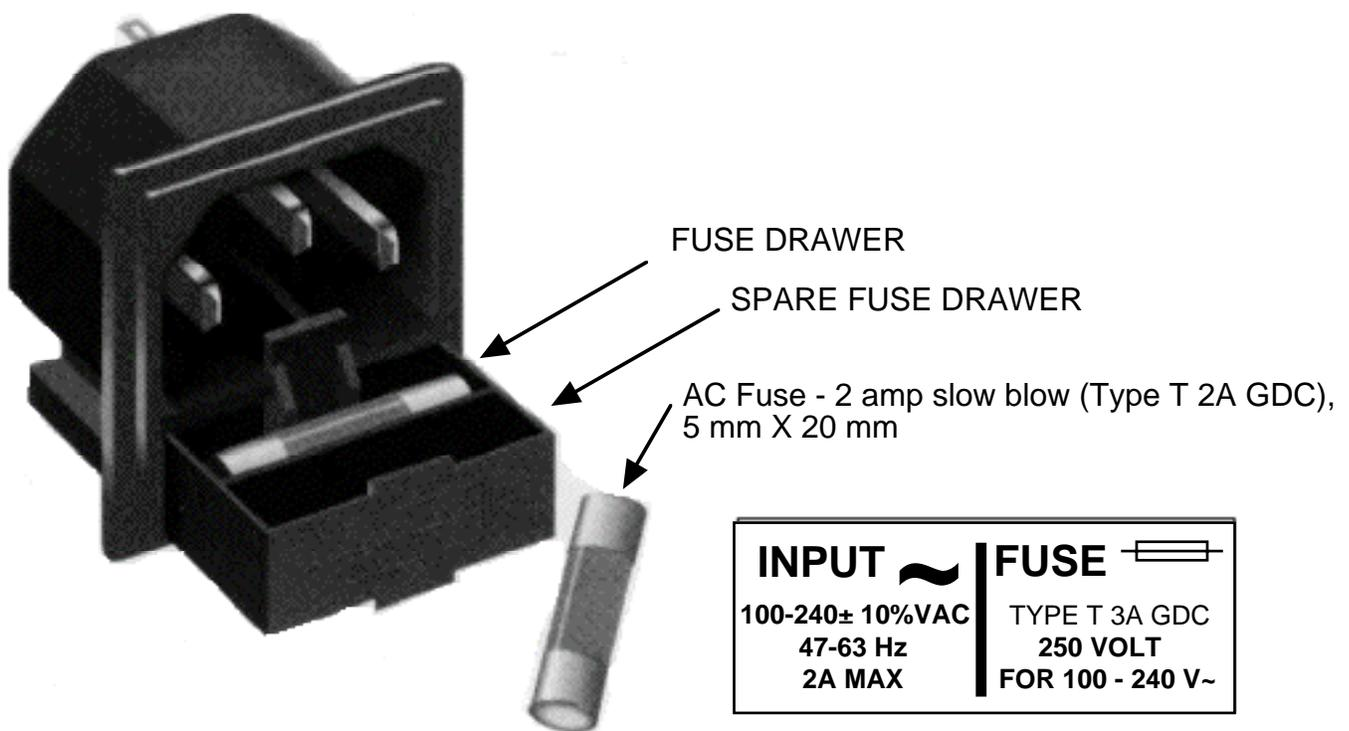

FIGURE 2.4 Fuse Location and Spare Fuse
8. AC FUSE - The AC fuse is a 5 mm X 20 mm, 2 amp slow blow (Type T) and is inserted in the far slot in the drawer below the AC input as shown in Figure 2.4. There is a spare fuse in the near slot. If a fuse continues to open, the power supply is most likely defective.